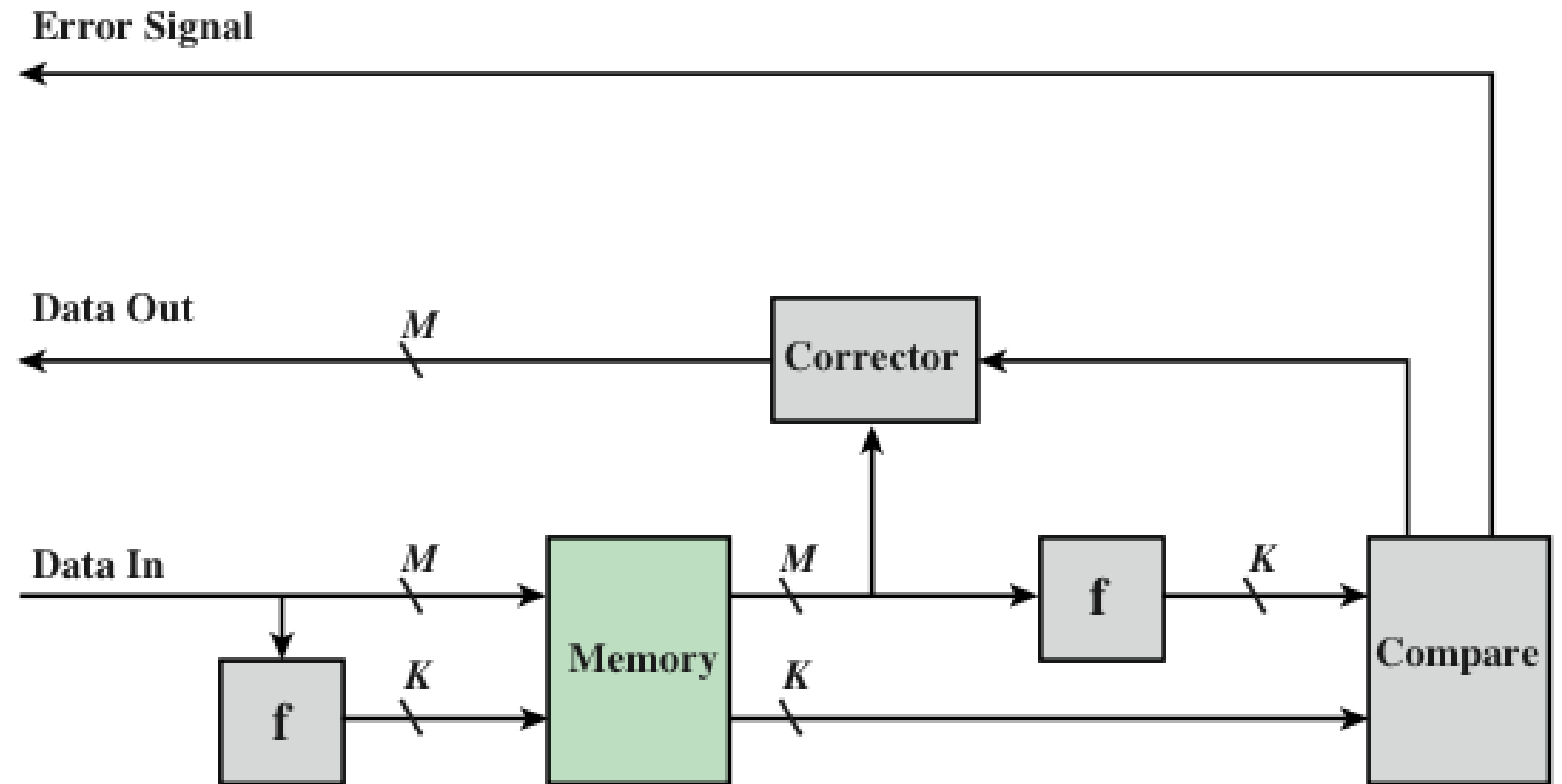

Figure 5.7 Error-Correcting Code Function
- In Figure 5.7, the comparison logic receives as input two K -bit values.